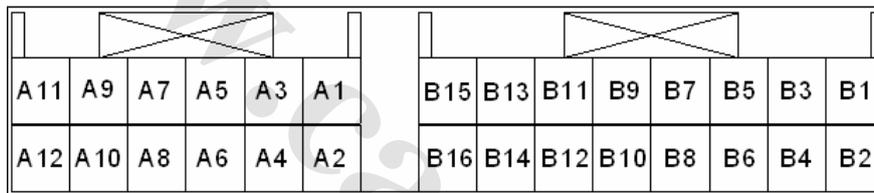

Fig. 4-87
5. Check emergency alarm switch (electrical air conditioning) as shown in Fig. 4-87.